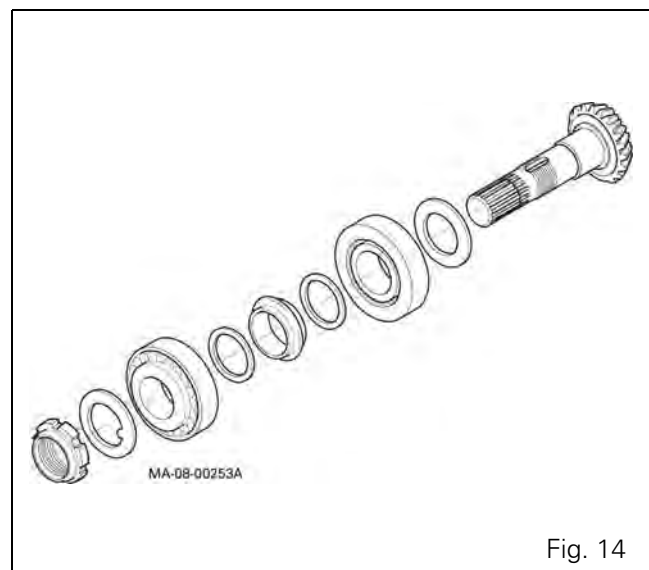

Fig. 14
19. Check all the pinion parts for wear (Fig. 14).